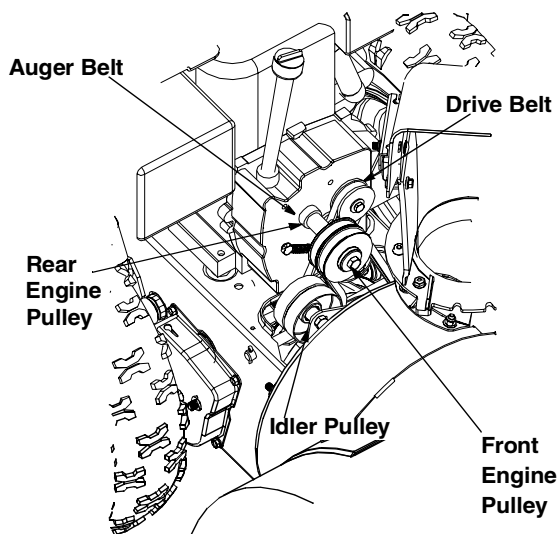

Figure 31
- Remove the two belts from the two engine pulleys. For location of the pulleys, see Figure 31 .
- Pull the idler pulley away from the drive belt and remove the belt from the engine pulley. You will find the idler pulley in front of the engine and under the belt cover that you removed earlier. See Figure 31.